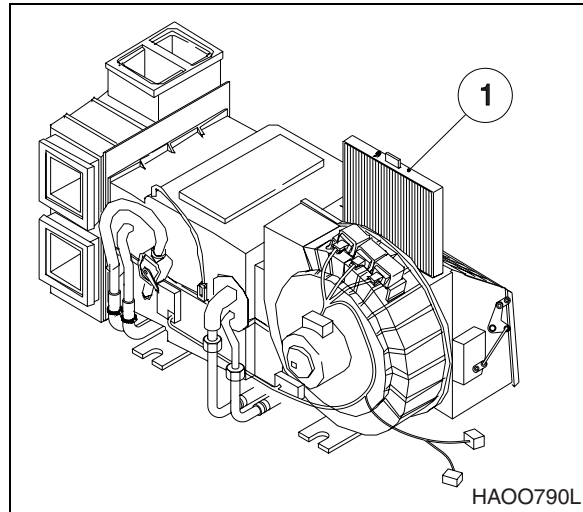

Figure 3
5. Remove filter element (1, Figure 3) and inspect it for any damage.